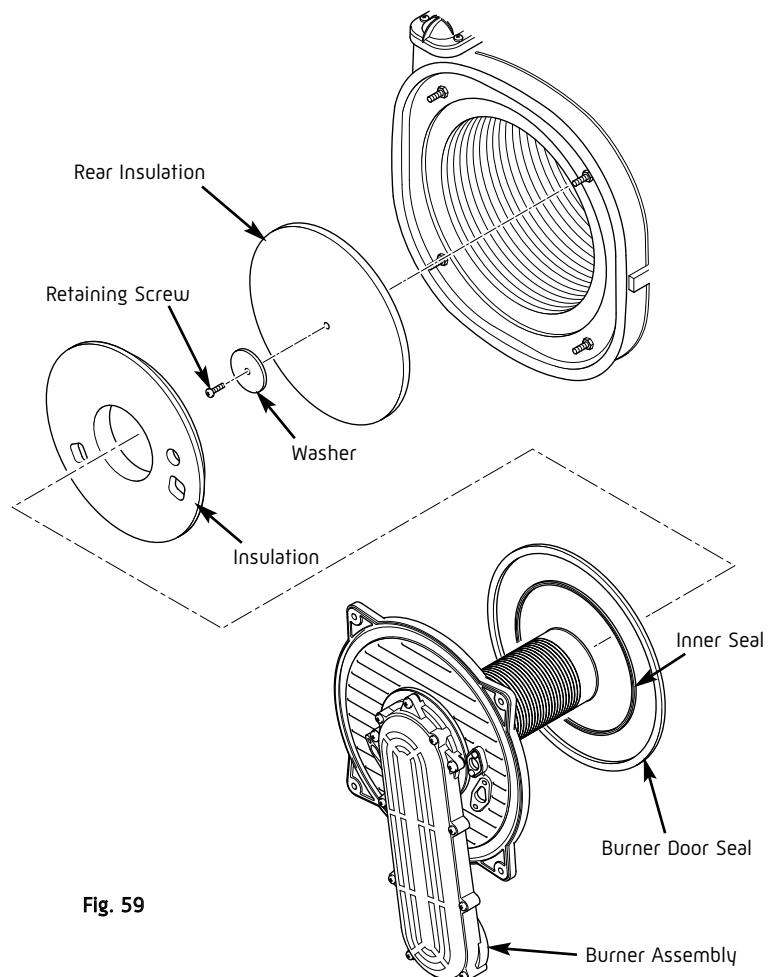

Fig. 59
8. The rear insulation is retained by a screw and large washer, remove these and draw the insulation out of the heat exchanger (Fig. 59).